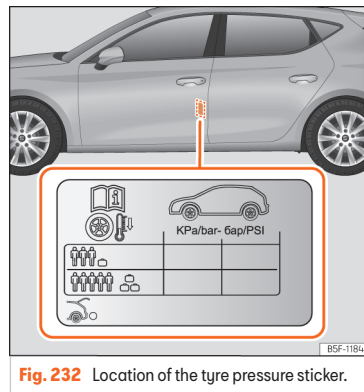

Fig. 232 Location of the tyre pressure sticker.
- Adjust tyre pressure to the load being carried by the vehicle »» Fig. 232.
The values of the tyre pressure are shown on the sticker label located on the rear frame of the front left door »» Fig. 232.
The tyre pressure must be adjusted according to the load the vehicle is carrying. If the vehicle is going to be fully loaded, increase the tyre pressure to the maximum load value shown on the sticker label »» Fig. 232.
In the case of a minimised temporary spare wheel (125/70 R16 or 125/70 R18) inflate to a pressure of 4,2 bar as indicated on the tyre pressure label »» Fig. 232.
- The driver is responsible for ensuring that all of the vehicle tyres are correctly inflated to the right pressure. The recommended tyre pressure is indicated on the label »» Fig. 232.
- Tyre pressure should be that indicated on the label when the tyres are cold at all times »» Fig. 232.